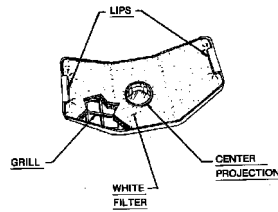

FIGURE 5
4. Lay the filter evenly against the grillwork in the filter cover with the printed side toward the grillwork. Align the hole in the filter with the center projection of the filter cover. Adjust the filter so that it covers the entire filter cover and is tucked under the tabs on each end of the cover. (See Figure 5.)